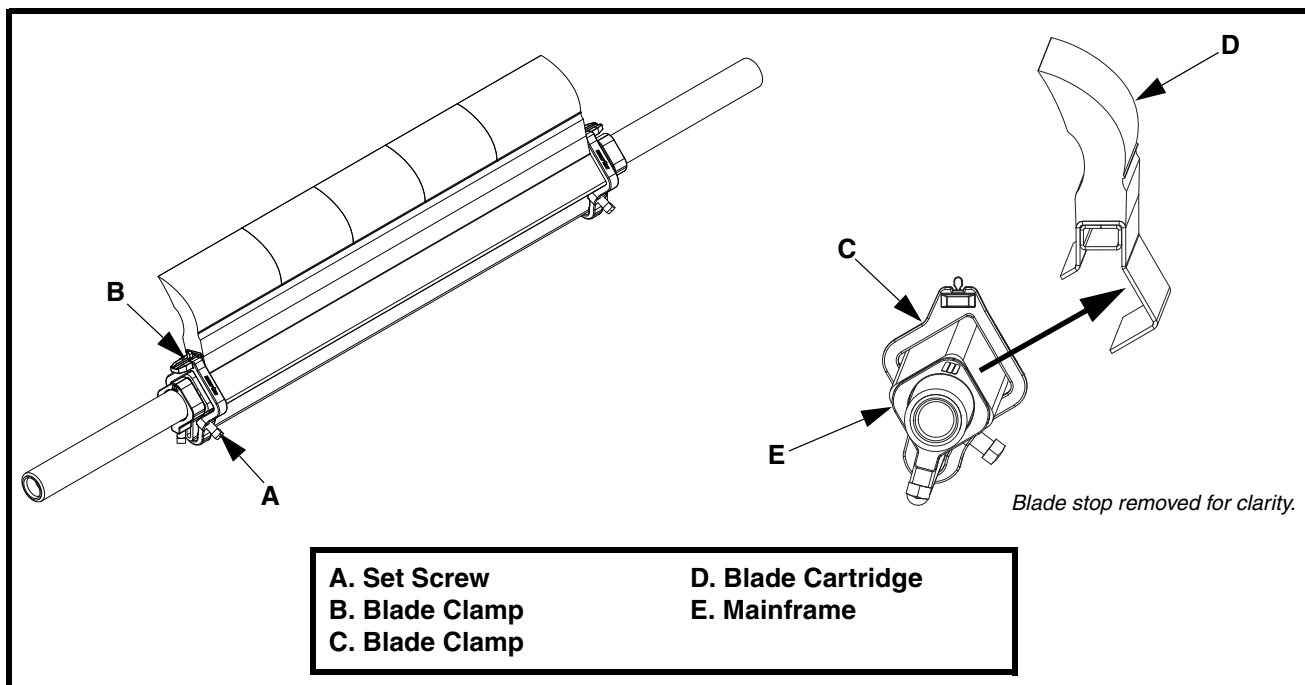

Figure 5. Removing and Installing Blade
1. See Figure 5. Position blade on mainframe with blade curve facing conveyor belt. Push far side end of blade into blade clamp (C) until it locks.
2. Push blade cartridge (D) onto mainframe (E) until it is fully seated.
3. Install blade clamp (B).
4. Tighten set screws (A) to 20 ft-lbs (27.1 Nm).